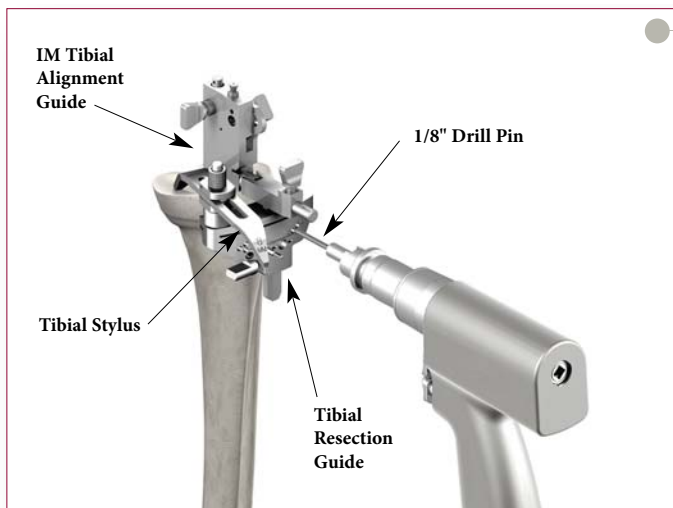

Figure 58
- ▶ Once the resection level is established, secure the Tibial Resection Guide to the anterior tibia using the 1/8" drill pins, drilling through the "0" holes. Pinning through the "X" Pin hole will further secure the Tibial Resection Guide to the tibia (Figure 58).